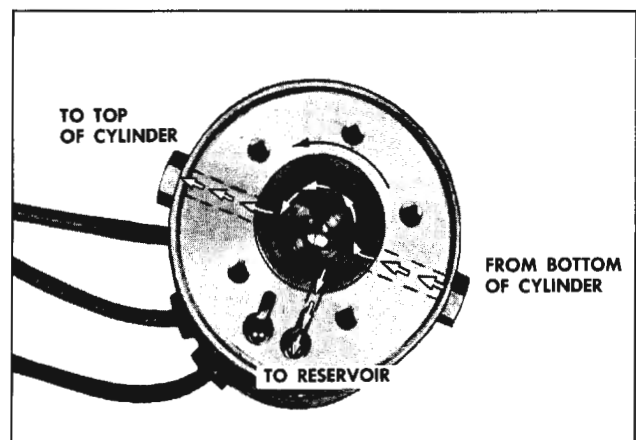

Fig. 16-144 Pump Operation to Lower Top
2. Lowering the Top. When the green motor lead is energized, the motor drive shaft turns the rotors counterclockwise as indicated by the large arrow in Fig. 16-144. The action of the pump rotors forces the fluid under pressure to the top of each cylinder. This action causes the fluid below the piston in each cylinder to be forced into the pump which recirculates the fluid to the top of each cylinder. The surplus hydraulic fluid due to piston rod displacement flows into the reservoir.